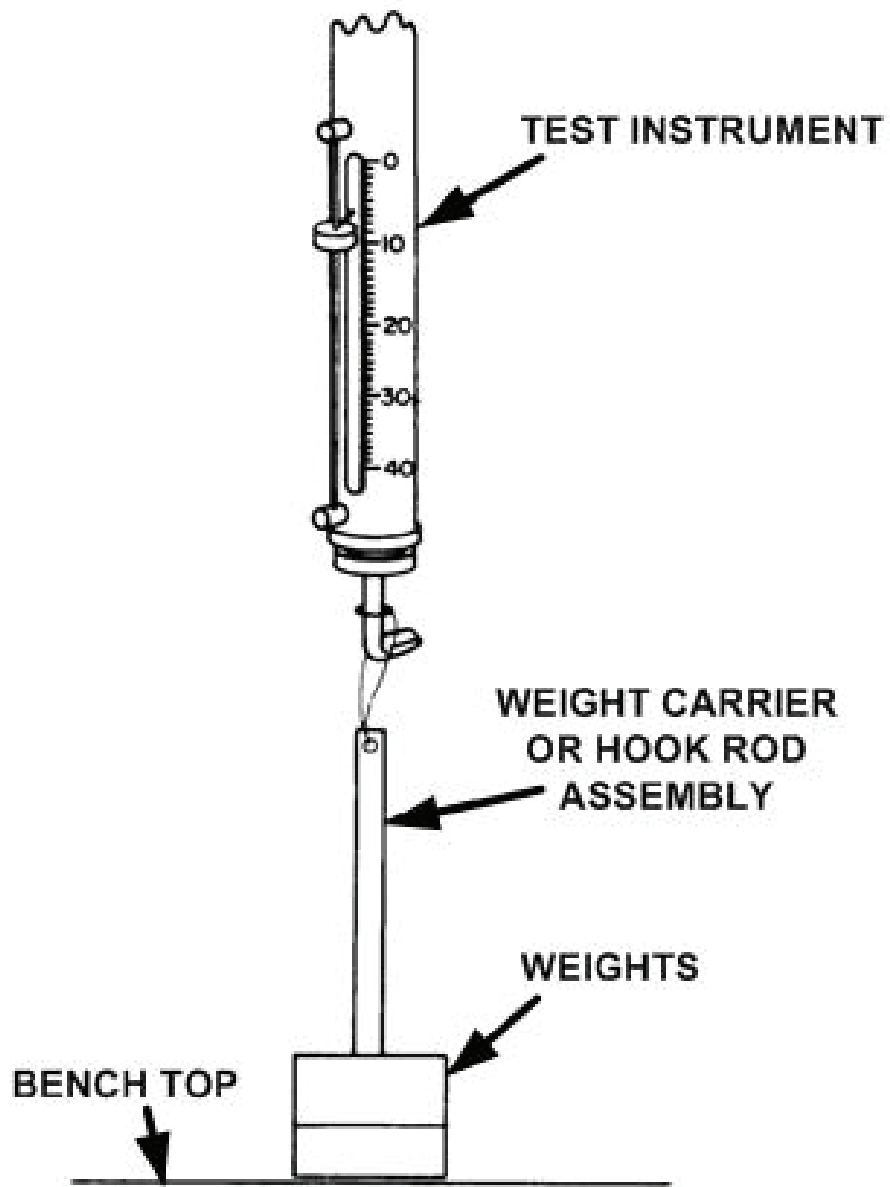

Figure 3. Tension check - equipment setup.
- (1) Hold TI in position in which it is to be used.
- (2) Fasten weight carrier (fig. 3) or hook rod assembly to TI.
- (3) Allow weight carrier or hook rod assembly to rest on bench top and assemble appropriate weight.
- (4) With TI in a vertical position, raise TI until all weight is supported by the hook. Maximum reading pointer should indicate amount of weight used plus weight of weight carrier or hook rod assembly  $\pm 1$  graduation.